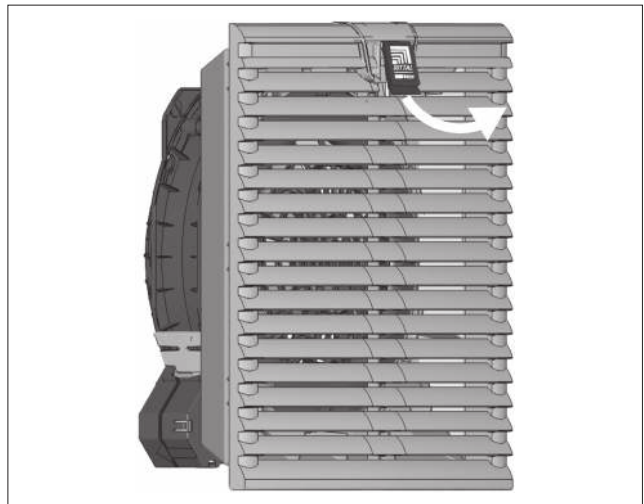

Fig. 6: Release the louvred grille
- First press the catch of the louvred grill (Rittal logo) up slightly with one finger (see fig. 6).
- First press the catch of the louvred grille (Rittal logo) up slightly with one finger (see fig. 6).